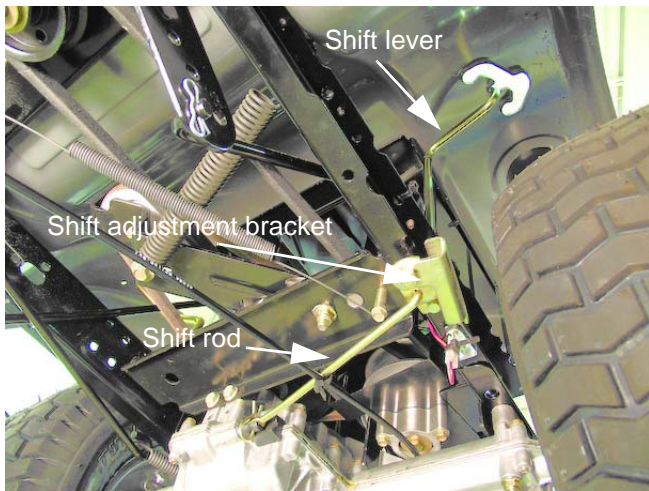

Figure 5.12
- The forward-neutral-reverse gear selector is on the left rear fender of the tractor. See Figure 5.12.